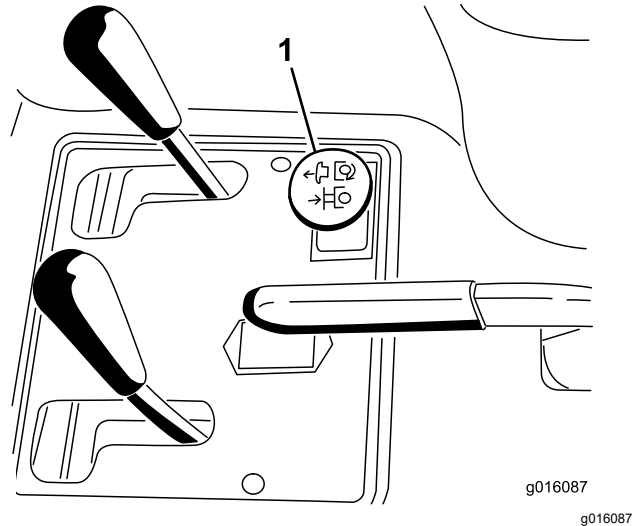

Figure 12
3. Engage the blade by pulling the remote hydraulics control knob upward (Figure 12).
- Disengage the blade by pushing the remote hydraulics control knob downward (Figure 12).